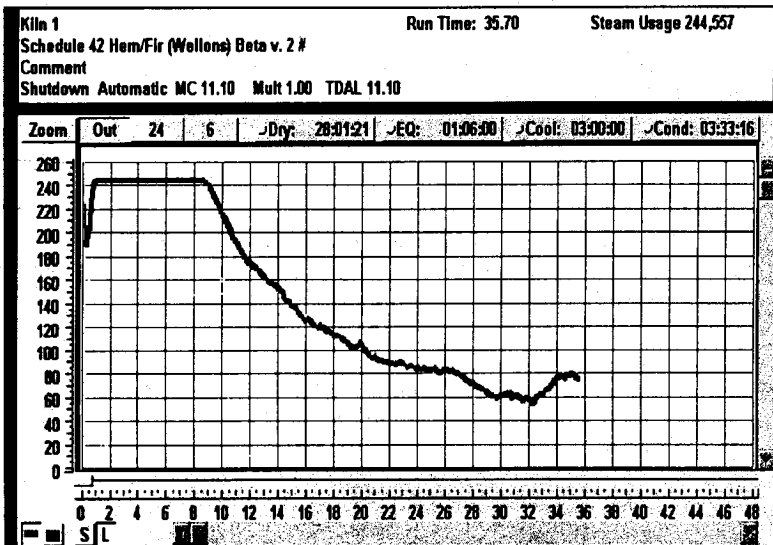

FIGURE 2. A constant drying rate can be achieved.
c). HV air can dramatically reduce kiln residence times and improve MC uniformity. It is easier to design schedules that produce an almost constant drying rate throughout (FIGURE 2) using HV air. I've found as that rate is approached, quality retention and appearance of the wood improve.